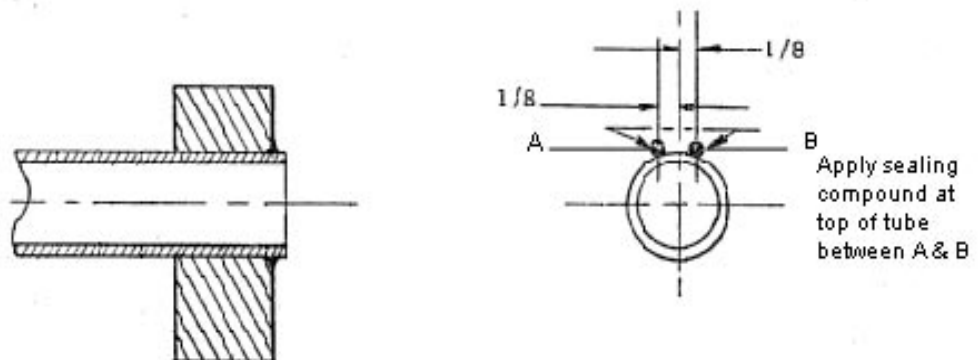

FIGURE 3 - APPLICATION POINT ON TUBE FOR SEALING COMPOUND
- a. Starting with the bottom row of tubes, apply just enough Loctite (Grade AV 087 sealing compound—York P/N 013-01046-000) to the top of each tube to completely encircle the tube. Apply Loctite AV 087 as shown in Figure 3, allowing capillary action to pull the sealing compound into the tube hole to insure proper bonding.